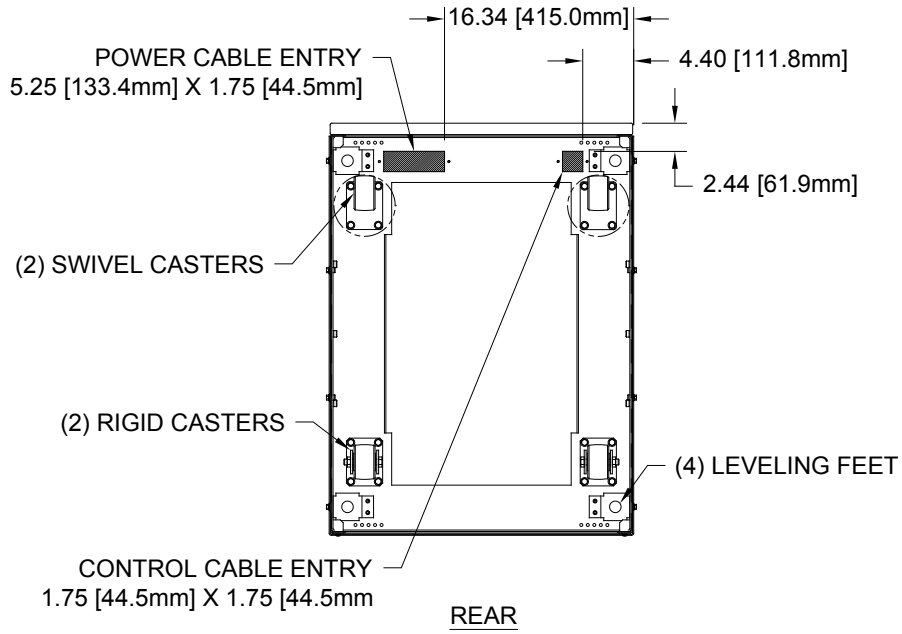

Figure 7 - Bottom View of Cabinet
7. Remove the inner front cover by removing the (10) ten screws mounting it to the enclosure.
8. Conduit landing plates are located at the front bottom of the base to accommodate bottom wire entry to the cabinet (see **Figure 7**). Remove plates and drill or punch hole to fit conduit bushing with Greenlee punch or similar device. Make certain that the bushing will be clear in the opening in the base. Mount bushing to plate and tighten to manufacturer’s recommendations. Replace the plates and mount conduit.